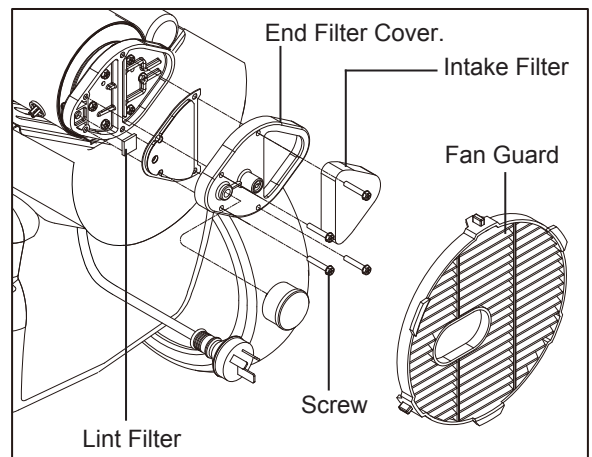

Figure 14. Air Output, Intake, and Lint Filters
- Remove Fan guard.(See Figure 14)
- Turn nozzle adaptor 40° turn (1/9) to counter clock wise and pull toward motor to remove. (See Figure 14)